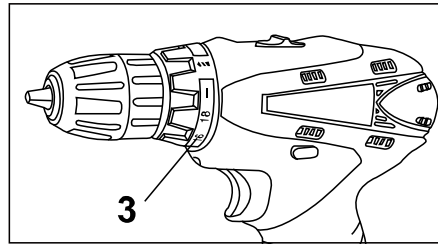

Fig 4
Drilling is indicated by the symbol (3) on the rotating ring (Fig 4).
The screwdriver is equipped with a special rotating ring for setting the torque limit. To adjust the torque limit, turn the ring (3) (Fig. 4) to the  position, then rotating the torque limiting ring, the mark 1 must coincide with the arrow (2) (Fig. 3). For the correct installation, use the table below.